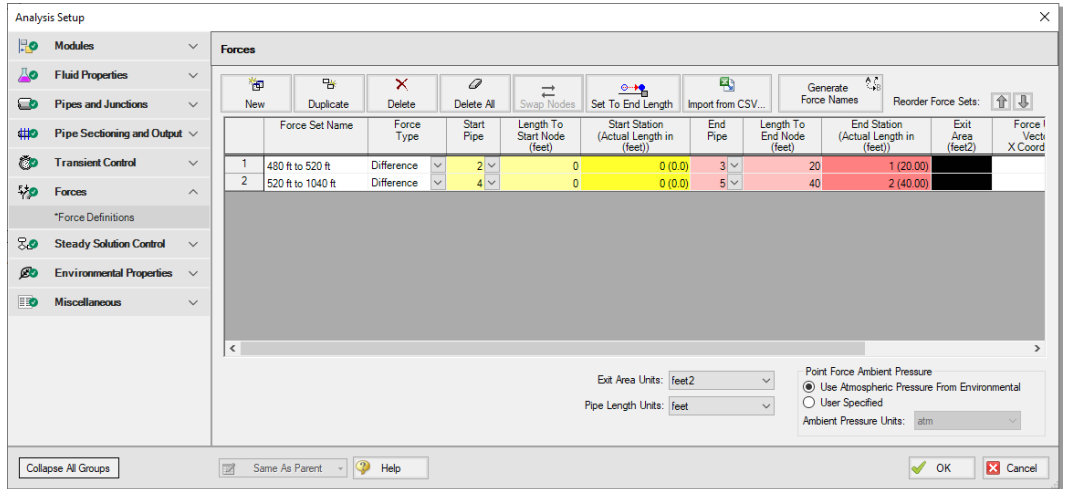

Figure 5.3 Completed Force Definitions panel
- **Create a force set by clicking New.** Then enter the data as shown in Figure 5.3. Repeat this process for the second force set.